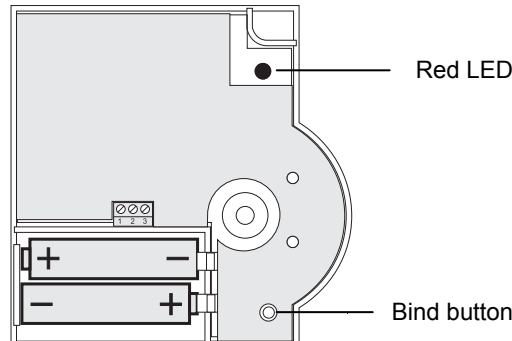

Fig. 2: Battery polarity and Bind button
- ▶ Insert the supplied AA batteries with the correct battery polarity (see Fig. 2).